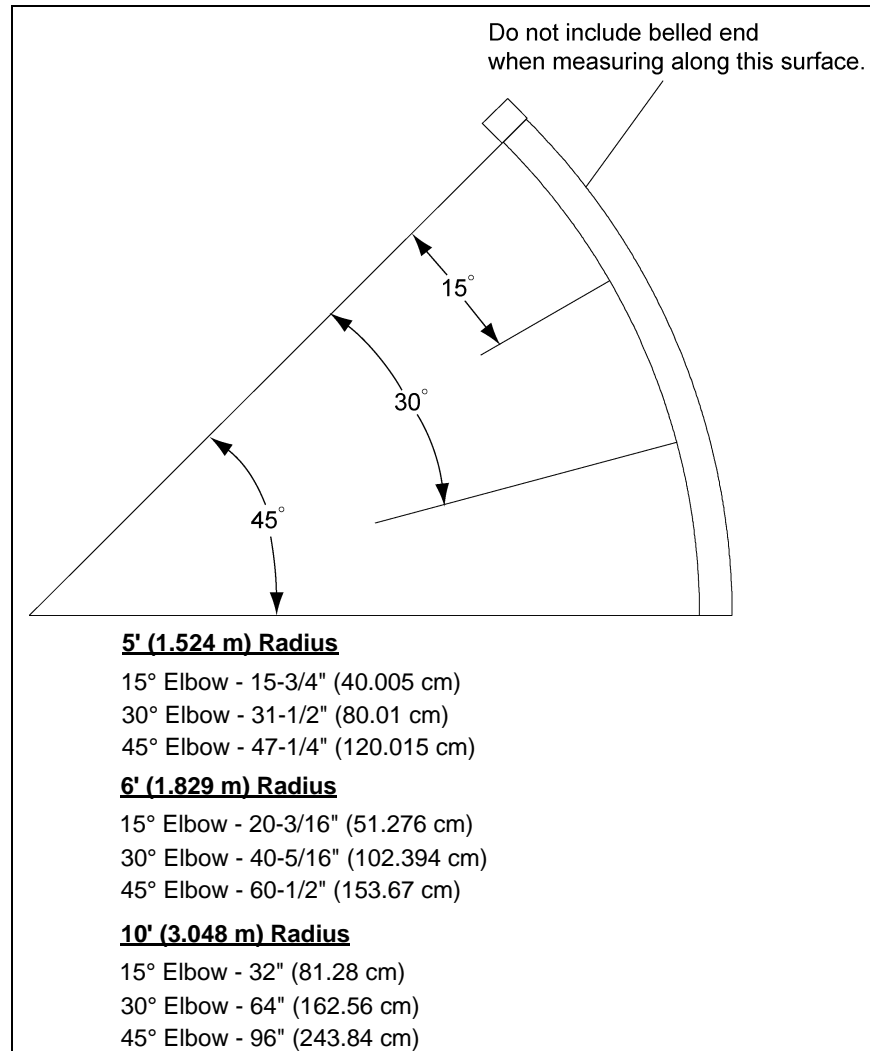

Figure 5K Cutting Chart for 45° Elbow
2. Slide the elbow tubing through the hole in the building. Establish and cut (if necessary) the elbow at the desired length to ensure that the auger tubing will be horizontal. See Figure 5K on Page 20 for proper cutting dimensions of the elbows at specific degree angles.